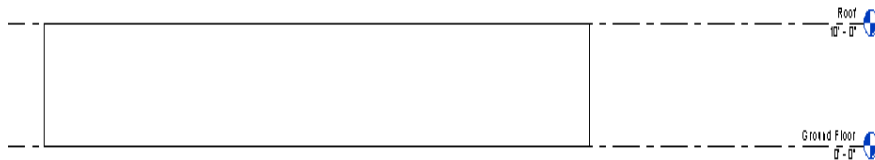

Figure 3-73 Renamed levels and views for the Office Building
7. Similarly, rename the **Level 2** as **Roof**, as shown in Figure 3-73.